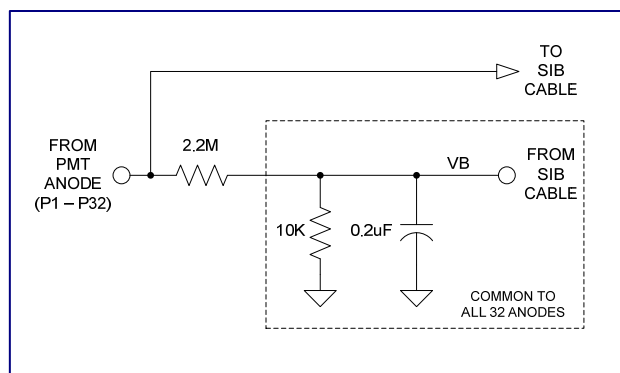

Figure 4: Anode Circuit
The 32 anode signals (P1 – P32) from the H7260 PMT are routed directly on the SIB232 to a specialized connector (J1) referred to as a sensor interface board (SIB) connector. The SIB connector mates to a proprietary low-noise, high density SIB cable assembly that carries the 32 anode signals on coaxial connections to a Vertilon PhotoniQ 32 channel PMT data acquisition system. Depending on the required speed and dynamic range, either a PhotoniQ IQSP480 high dynamic range system or an IQSP580 high speed system can be used as the main data acquisition unit. To minimize the possibility of damage due to ESD, the H7260 anodes each have a 2.2 Mohm shunt resistor to a common low impedance point. This point is biased at a voltage equal to the bias voltage (VB) of the charge integrating transimpedance amplifiers on the PhotoniQ so that the anodes can be DC coupled to them. Figure 4 below illustrates the equivalent circuit as seen by each PMT anode. For ultra-low current applications, the model SIB232D is available which does not include the 2.2 Mohm resistors.